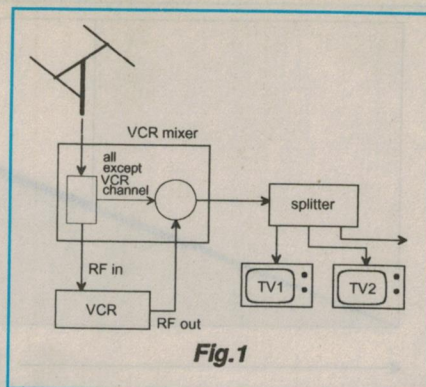

Fig.1
Looking at the specifications supplied with the letter, the VCR Mixer has an insertion loss of -6dB (VHF) and -7dB (UHF). It uses F connectors for minimum RF leakage and is fitted in a diecast aluminium box. If the insertion loss, (plus that of a suitable splitter) causes too much loss in the signal, a TV distribution amplifier might be needed. The system is shown in block diagram form in Fig.1. For further information, contact MMT Australia at 7 Amsted Road, Bayswater, Victoria or phone (03) 720 8000.